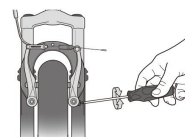

Fig.3
4. Adjust the elastic force of the brake, the two sides must be consistent and the elastic force must be uniform. (Fig. 3)